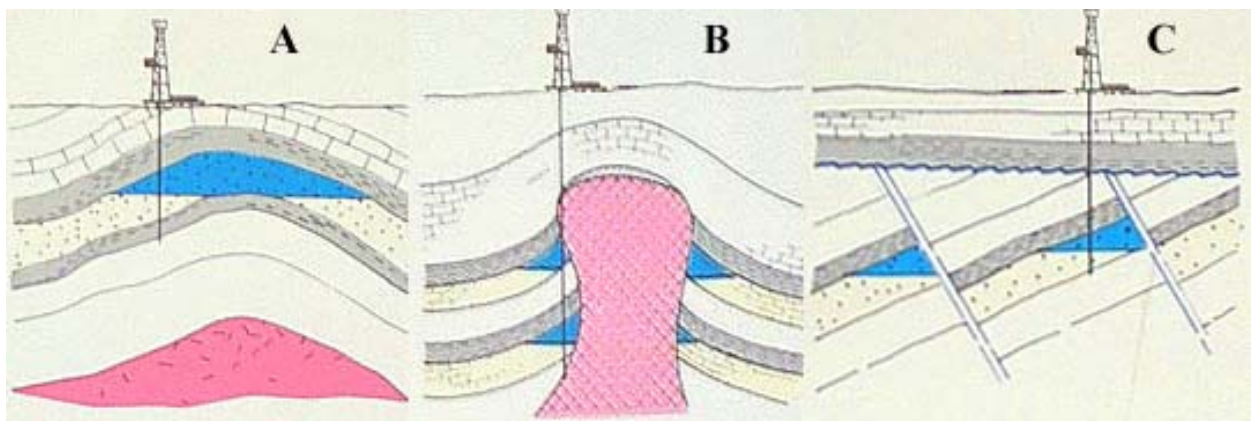

Figure 4: A) Anticlinal trap, B) salt dome trap, and C) tilted fault block trap (Pennwell Publishing)
For oil production to be profitable, though, the oil needs to be trapped in the ground. This means that the migrating oil has to encounter a rock layer(s) with no faults that is impermeable to flow through the rock matrix. In order for the oil to accumulate in quantities large enough to be produced profitably, the rock layers must also form a large trap. Figure 4 shows several diagrams of potential traps. The easiest of these to understand is an anticlinal formation (A) in which the rock layer forms a hill-like structure that has a caprock of shale or siltstone (gray rock). Once the oil (blue) has flowed upward through the permeable layer to the top of the anticline, it is trapped by the siltstone and accumulates in the porous layer.